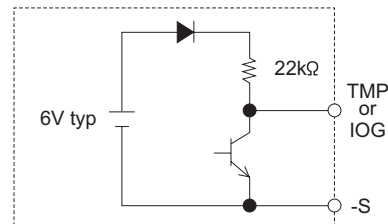

Fig.4.1 TMP, IOG circuit
TMP circuit is designed as shown in Fig.4.1, and specification is shown as in Table 4.1.
- IOG circuit is designed as shown in Fig.4.1 and specification is shown in Table 4.1.
- ① Malfunction of inverter.
- ② The output voltage drops by 60% or less of the rated voltage.
- ③ When output wattage is decreased radically to less than 10% of rated wattage.